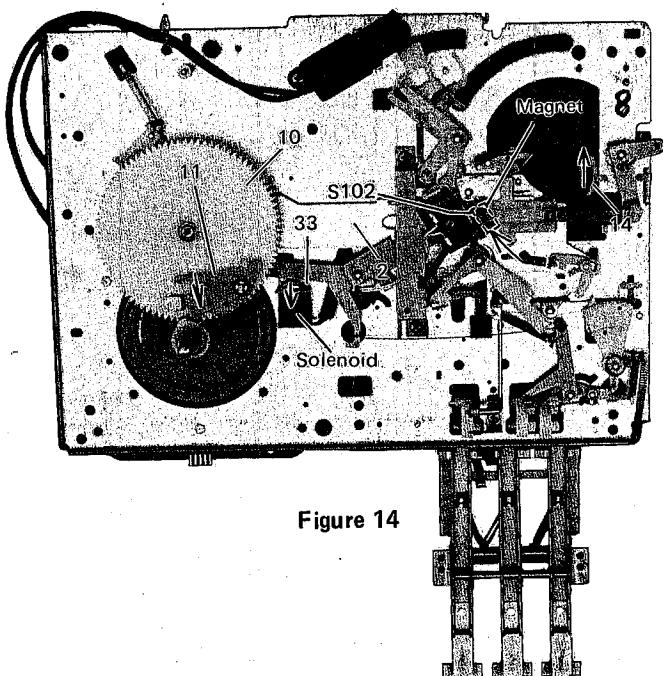

Figure 14
- (6) Main Gear (10) continues rotation and slides back Return Lever (2), returning Repeat Cam (15) with Repeat Click for Return Lever (6) and stopping at non/geared position of Main Gear (10). Record playing starts. (Figure 14)
- (1) When the Stylus comes to final groove of the record disc, the Magnet on the Pickup Plate Assembly comes closer to Proximity Switch (S102) and turns it on.
- (2) The Solenoid pulls Reject Lever (33) to push out Auto Clutch (11). (Figure 14)